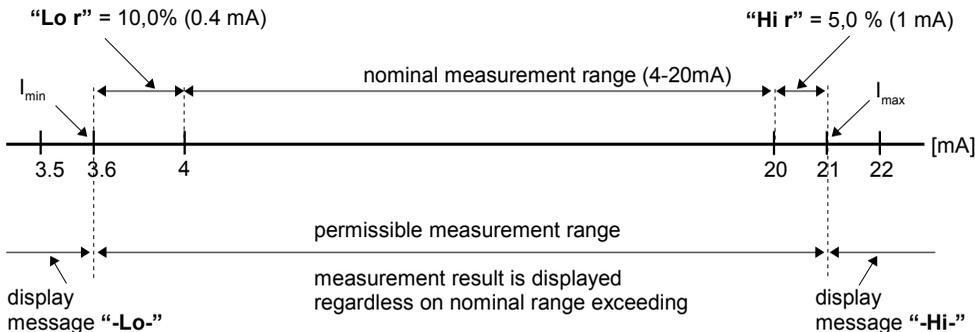

Figure 7.1 Example of definition of permissible range of input signal - “Lo r” and “Hi r” parameters
If two threshold mode is used, “modE” parameter defines state of the relay output when the input value occurs in a particular zone defined by **border values** of both **thresholds**. The relay can be turned on if the input value enters the **zone A** (“modE” = “in”) or **zone B** (“modE” = “out”) and turned off if it enters the second one (figure 7.1).
- these parameters define the expansion of nominal range in percent. They determine the permissible range of input signal (figure 7.1).